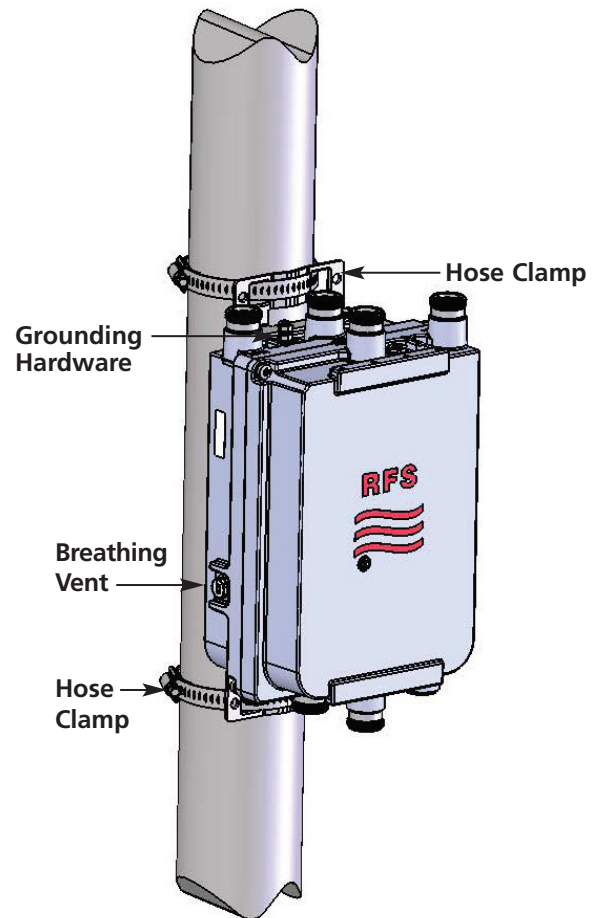

Figure 1
1. Assemble the brackets to the Tower Mounted Amplifier with 4Nm (3ft-lbs) torque for the M5 screws (**Figure 1**).